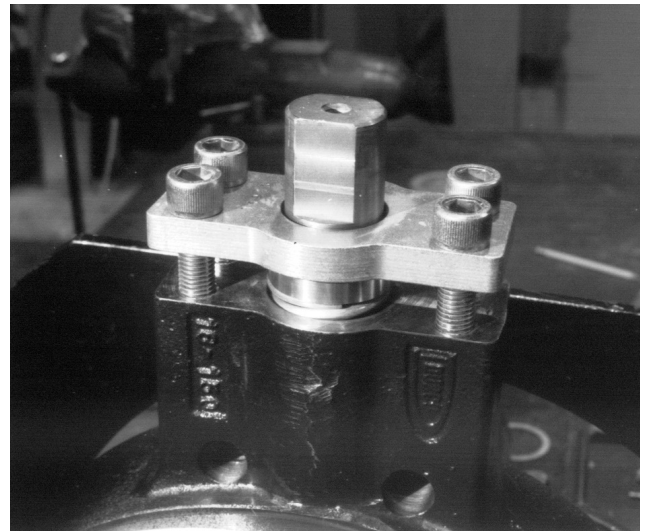

Figure 22
- 12. All Sizes:** Place the retainer plate (3) over the disc stem on top of the ground spring and gland. Find the two longest socket head screws (4) and finger tighten them three to four turns into diagonally opposite holes as follows: facing the valve body, put one in the front hole on the left side of the body stem bore and the other in the back hole on the right side. Put two short socket screws (4A) in the other two holes and finger tighten three to four turns (Figure 22). See note – Table 6.